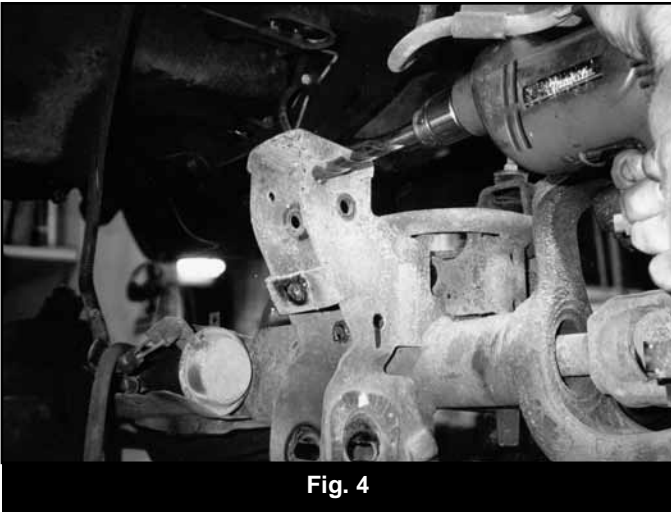

Fig. 4
13. Prior to installing the upper link relocation brackets, check the holes on each side of the upper link axle mounts to ensure that a 12mm bolt fits through them. If not, drill out the holes to 1/2". (Fig. 4 & 5)